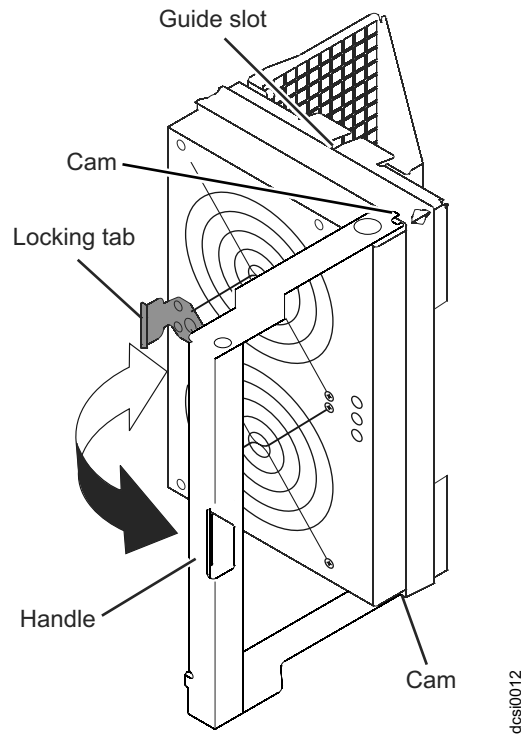

Figure 86. Removing a fan assembly
- a. At the rear of the storage expansion enclosure, remove the fan assembly (see Figure 86 on page 135) by pressing on the locking tab holding the fan assembly handle in place; then, pull the fan assembly handle toward you.